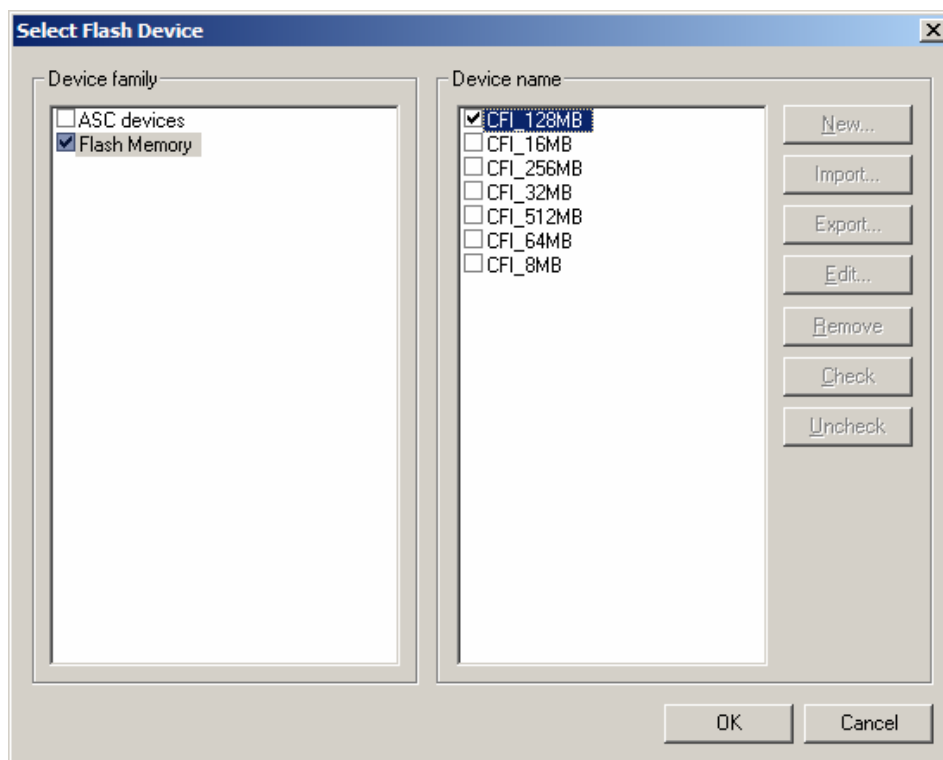

Figure 4 – Select Flash Device window
3. From the **Edit** menu, select **Attach Flash Device** to open the **Select Flash Device** window as shown in Figure 4 on page 2-5.